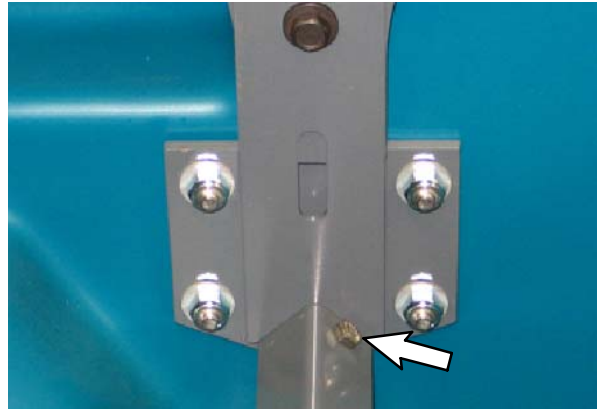
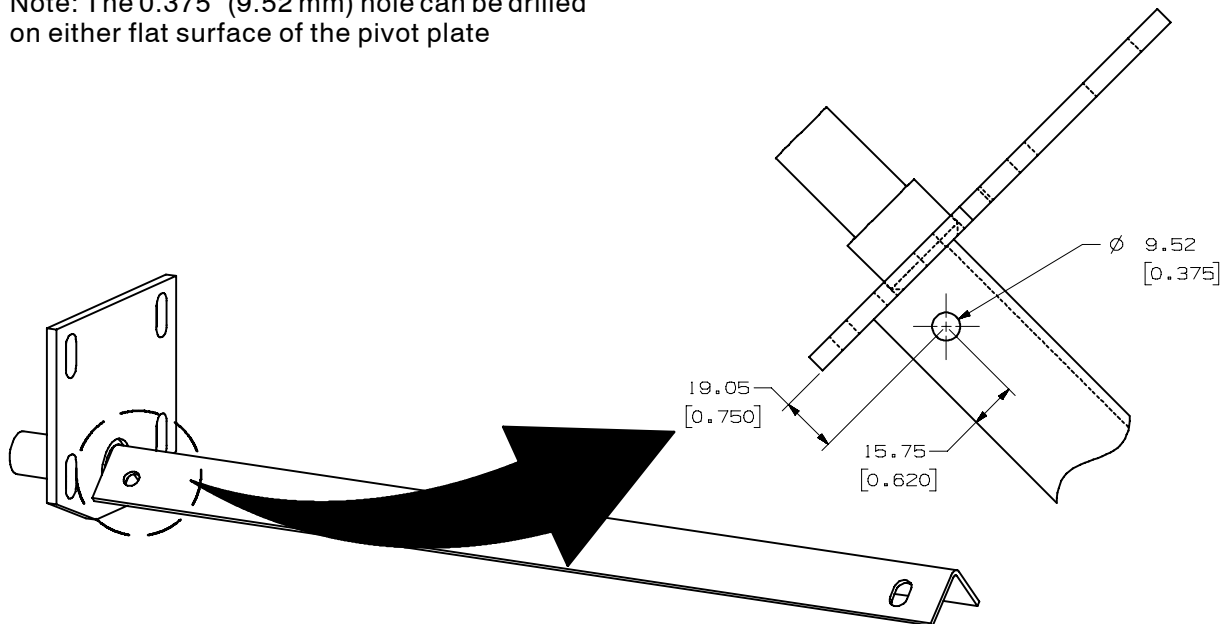

FIG. 10
FIG. 11
*NOTE: **Do Not** pinch the harness or wires between the hopper front lip supports (4) and the front lip of the hopper or the bumper support plate.*
18. Drill a 0.375" (9.52 mm) hole into each pivot plate. Refer to Fig. 11.
19. Install a hex screw (9) and nut (10) into each the hole drilled in each pivot weldment. Refer to Fig. 10 and Fig. 11.
20. Use two hex screws (3) to connect each hopper top lip support (1) onto a hopper bottom lip support (2). Do not completely tighten the hex screws.
21. Place a hopper lip support assembly from the previous step onto the pivot weldment on either side of the hopper. Position the bottom of the hopper bottom lip support (2) between the hex screw (9) installed in the previous step and the pivot weldment plate. Refer to Fig. 10.